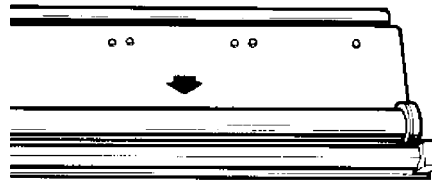

Fig.54
4. Clean & grease the sliding bar once a month (fig.54).